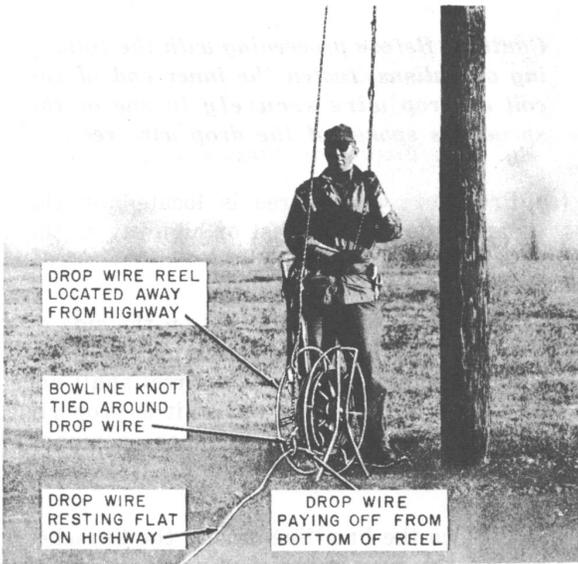

Fig. 3 — Bowline Knot Placed Around Drop Wire
(2) Place a handline over the strand, guard arm, drive hook, or crossarm so that both ends reach the ground, with no excess length in that portion of the handline toward the building. If practicable, the handline may be formed into a coil at one end and thrown over the strand. After the handline has been placed, tie it to the base of the pole or the lower rungs of the ladder to avoid interference with pedestrians or vehicles. If it is necessary to climb the pole or ladder to place the handline, install any drop wire support that is needed.
(3) Roll or carry the drop wire reel from the building to the building side of the street or highway, paying out the wire along the ground with sufficient slack to ensure that the wire rests flat on the ground.
(4) When no traffic is approaching, roll or carry the drop wire reel across the street or highway to the previously placed handline, paying out the wire so that it rests flat on the ground. If a metal or hard rubber-tired vehicle passes over the wire, carry the drop wire reel back to the building side of the highway and pull the wire from the highway. Inspect the wire for possible injury and replace any portions that are found to be damaged.
(5) Release the handline from the base of the pole or ladder and tie a bowline knot in the end of the handline toward the building and around the drop wire at the reel as shown in Fig. 3, being careful not to raise the wire above the highway. Wind any excess length of drop wire on the reel.
(6) Set the brake of the drop wire reel so that when the wire is raised by the handline there will be sufficient tension on the wire to enable it to be pulled up to the approximate required height in the span over the street or highway.